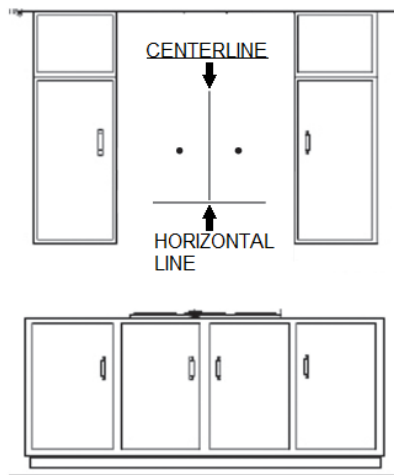

Figure 1.
1. Find the center of the wall where you are installing the hood. **NOTES:** Be sure there is sufficient bracing to hold the weight of the unit. Draw a vertical line on the supporting wall up to the ceiling, or as high as practical, at the center of the area in which the hood will be installed. *Figure 1.*
2. Draw a horizontal line at desired height (min 30" above the cooktop). *Figure 1.*